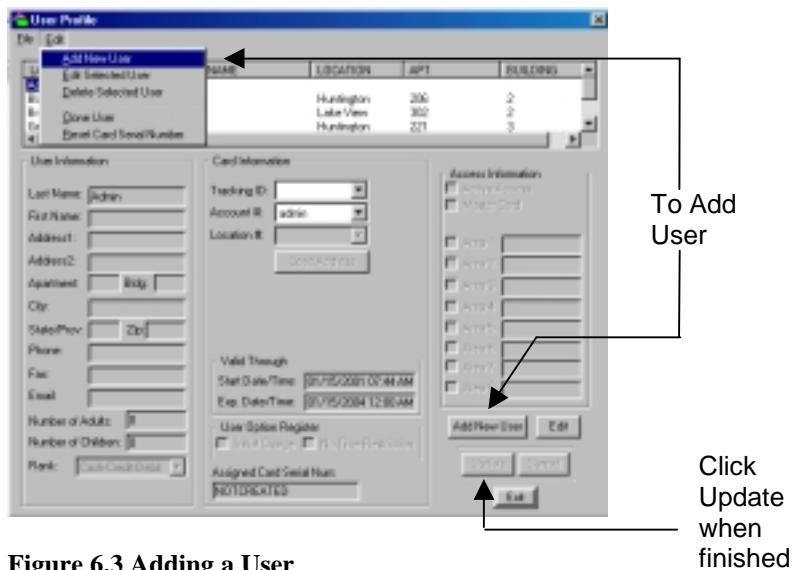

Figure 6.3 Adding a User
2. Click the Add New User button or select Add New User from the Edit drop-down menu (Figure 6.3).
5. After verifying that all user information and access privileges have been entered correctly, click the Update button (Figure 6.3).